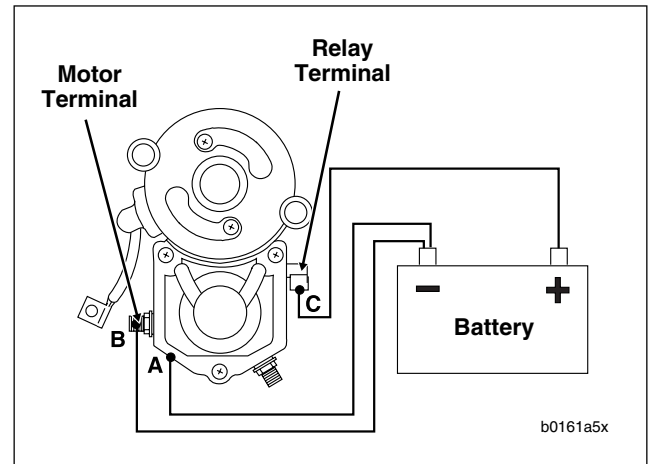

Figure 1-5. Test 1: Pull-In Test
Do not disassemble solenoid. Before testing, disconnect field wire from motor terminal as shown in Figure 1-5.
1. See Figure 1-5. Using a 12 volt battery, connect three separate test leads as follows: